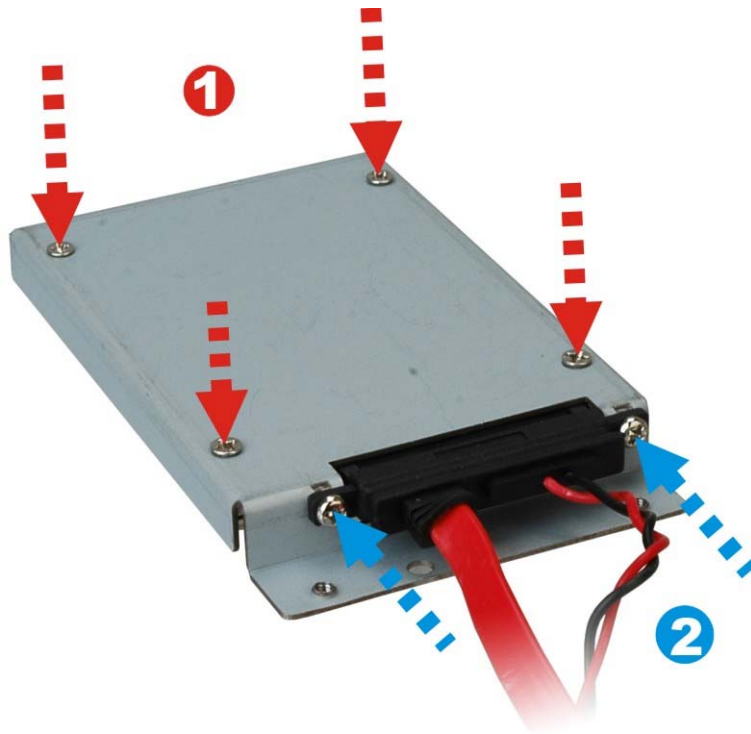

Figure 3-3: HDD Retention Screws
Step 3: Attach the HDD bracket to the HDD. Secure the HDD with the HDD bracket by fastening four retention screws (**Figure 3-3 ①**).
Step 4: Connect the SATA cable in the ECN-581A-R11/QM57-I5 to the HDD. Secure the SATA cable with the HDD by fastening two round head screws (**Figure 3-3 ②**).